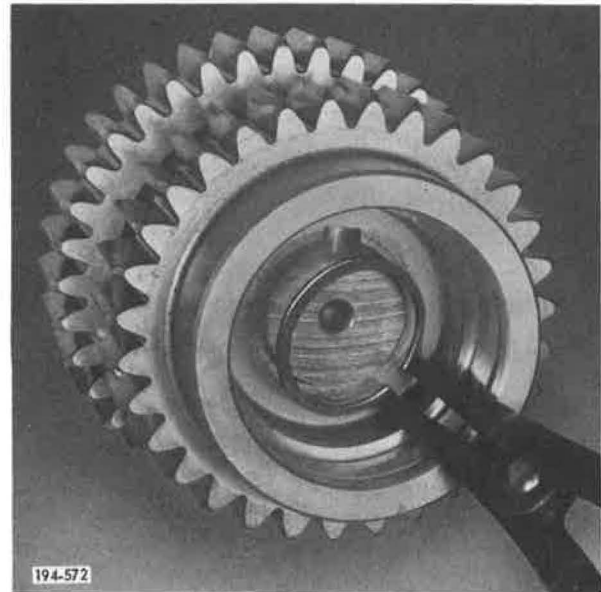

Figure 5-320. Removing Snap Ring
3. Remove rear countershaft gear retaining snap ring, using snap ring pliers J-6435 or equivalent. See Figure 5-320.